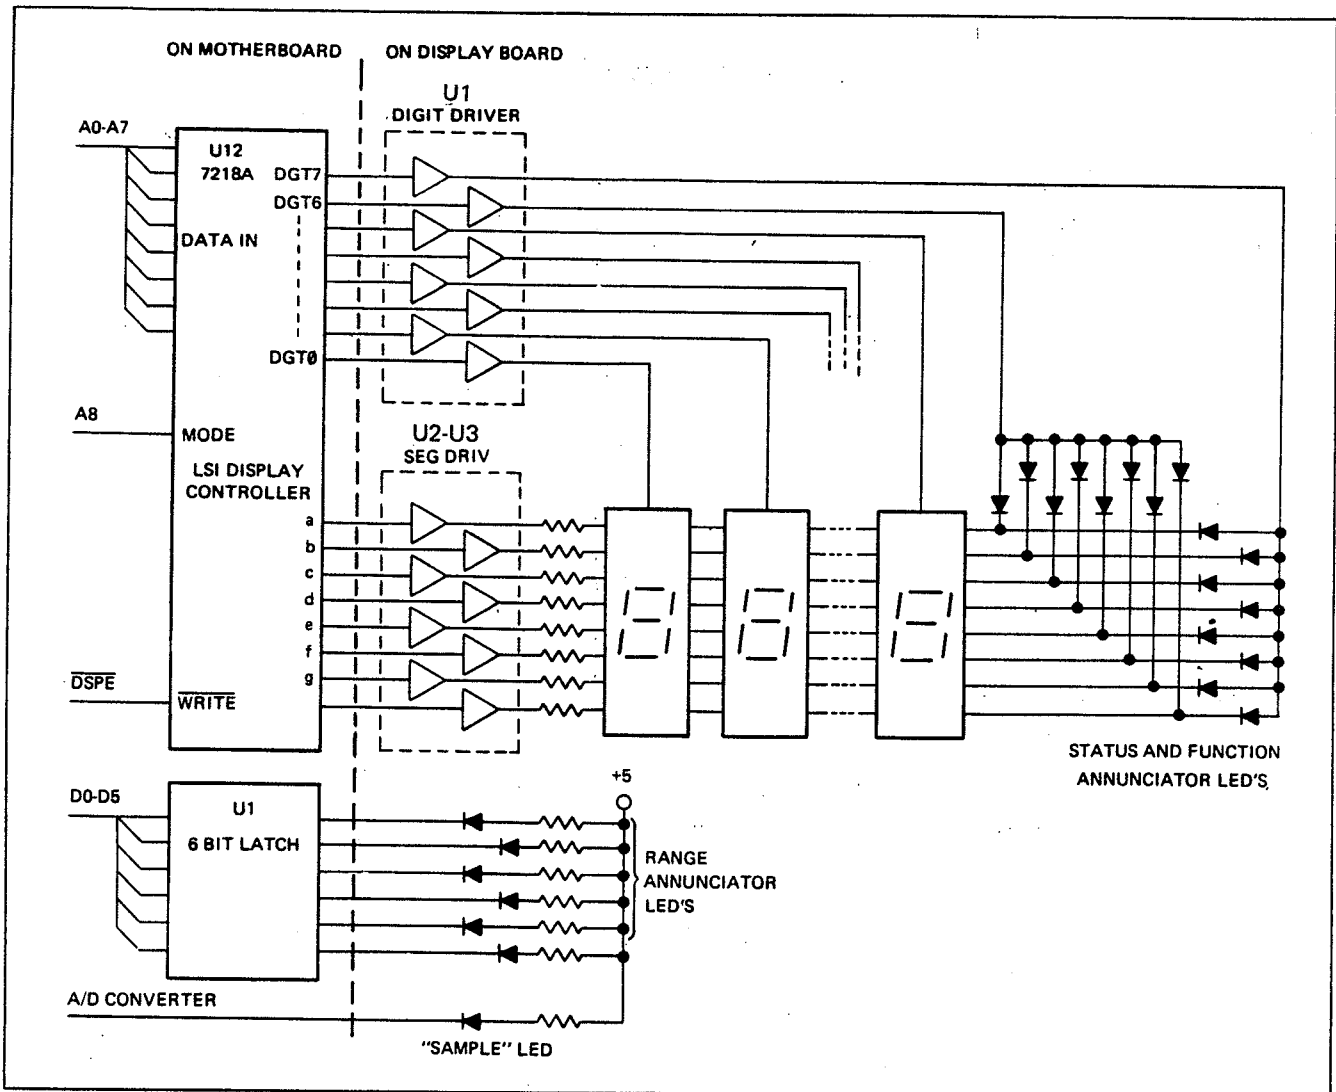

Figure 4.18 - LED Display Hardware
4.6.2.1 The front panel LEDs are controlled by MB-U12 and MB-U1 through the  $\mu\text{P}$ . MB-U1 is a 6-bit latch which is loaded from the data bus by the  $\mu\text{P}$ . The outputs of MB-U1 drive 5 range annunciator LED's and the "EXT REF" LED. The display configuration is presented in the block diagram Figure 4.18. This drawing merges the motherboard and display board components to give an overview of the display schematics on page 6-14 and the display control schematic on page 6-17.